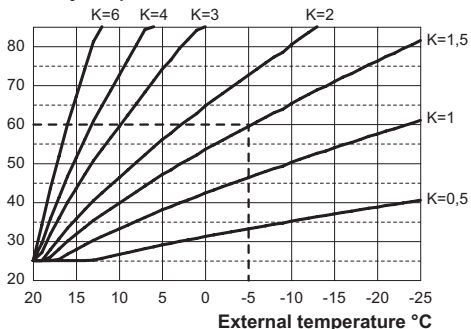

Figure 5.32
If the remote control **IS CONNECTED** to the boiler (optional), refer to Figure 5.32.
When installing the external sensor, this parameter must be set based on the efficiency of the heating system to optimise the delivery temperature (Figure 5.32).
E.g. To achieve a heating system delivery temperature of 60°C with an outdoor temperature of -5°C, set a K of 1.5 (dashed line in Figure 5.32).
- Pressing the 14 or 16 keys, it is possible to change the value of parameter 14 from a minimum of **00** to a maximum of **60** based on the selected curve of the K coefficient in Figure 5.32 (the value shown on the display, in Figure 5.38, corresponds to **K = 1.5**).